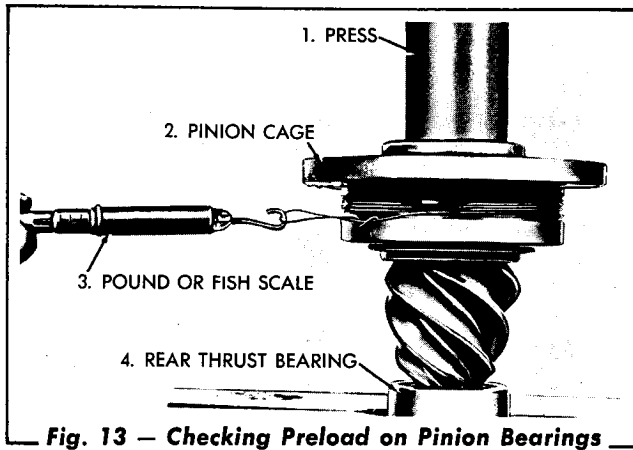

Fig. 13 — Checking Preload on Pinion Bearings
8. Suitably support the pinion assembly and wrap a piece of soft wire or string around the pinion bearing cage. Using a pound or fish scale, check the pinion-tapered bearing preload torque (Fig. 13). This **ROTATING TORQUE** (not starting torque) should be 5 to 15 lbs. in. If the rotating torque is not 5 to 15 lbs. in., it will be necessary to remove the front tapered bearing and the pinion bearing cage to install a thinner (or thicker) spacer between the bearings. A thinner spacer will increase the bearing preload and a thicker spacer will decrease the bearing preload.